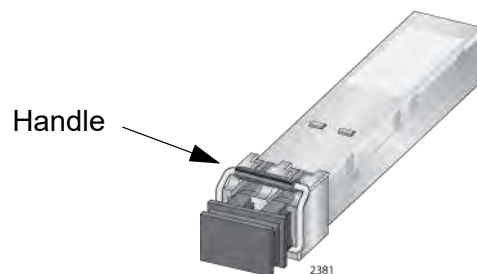

Figure 112. Handle on an SFP+ Transceiver
2. If you are installing the SFP+ transceiver in slot 1 or 3, orient it with the handle on top, as shown in Figure 112. To install it in slot 2 or 4, orient it with the handle on the bottom.